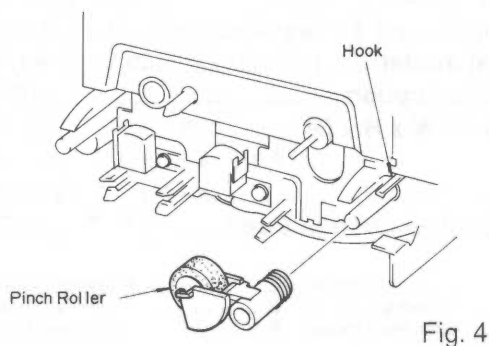

Fig. 4
- Detach the hook in fig. 4 and remove the pinch roller.